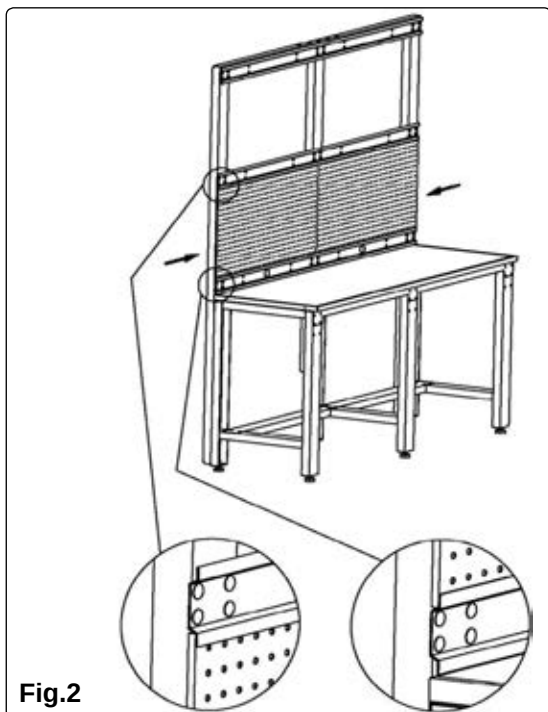
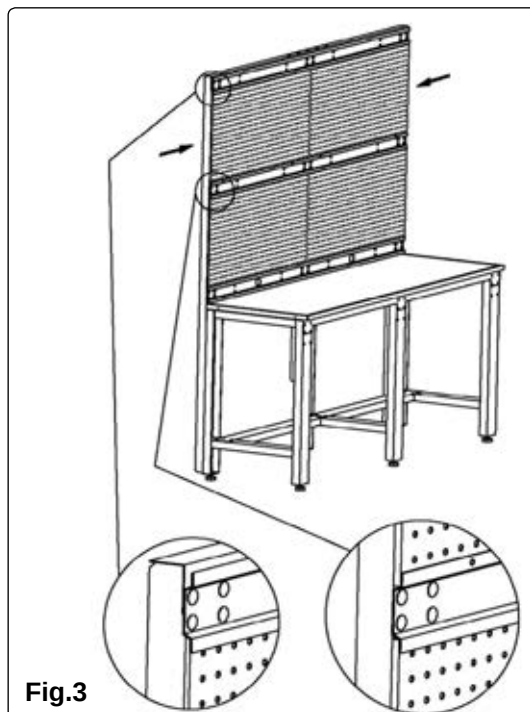

Fig.2
Fig.3
- 5.2.1 Slide the peg board between the rails of the mounting frame as shown in Fig.2 and or Fig.3 depending on the configuration required.